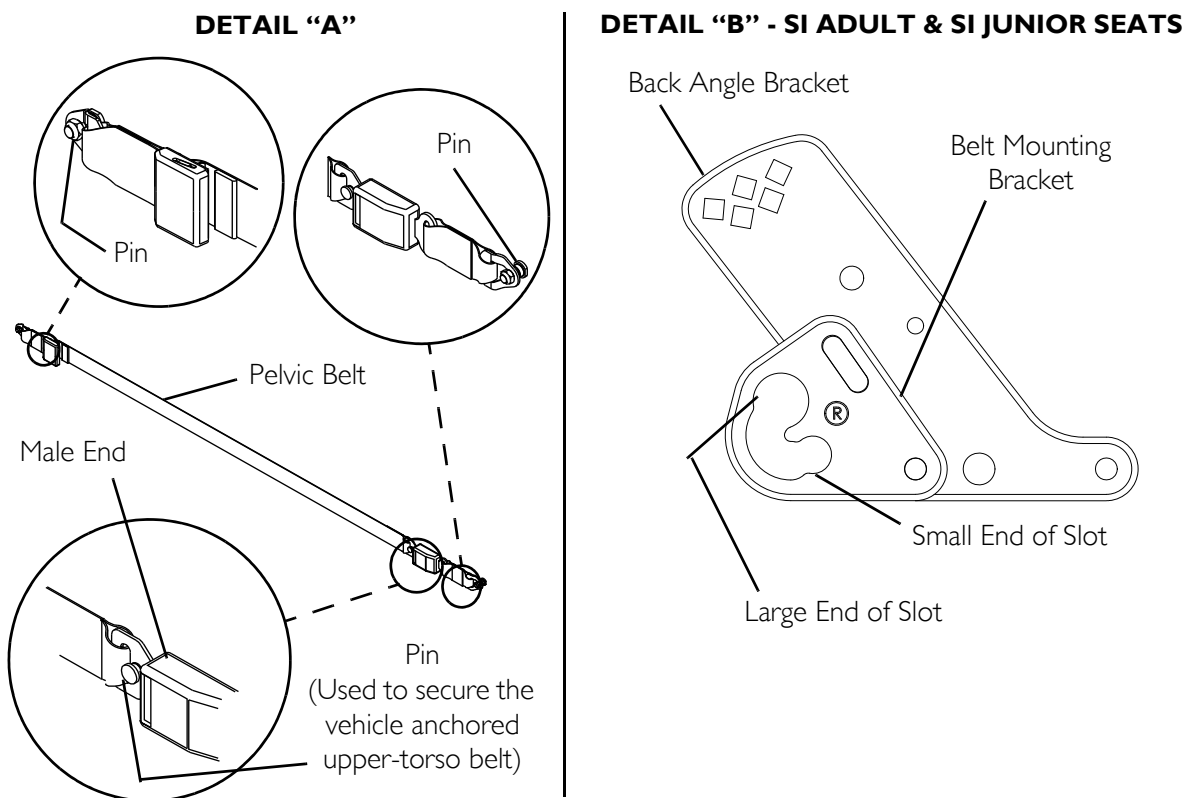

FIGURE 11.2 Wheelchair-Anchored Belts
NOTE: For this procedure, refer to FIGURE 11.2 on page 67.
1. Install the pelvic belt pin (Detail "A" of FIGURE 11.2) into the large end of the slot in the belt mounting bracket (Detail "B" or Detail "C"). Rotate downward and forward until it snaps into place into the small end of the slot.
NOTE: Note the position of the male end of the belt when installing the pelvic belt onto the belt mounting brackets. The male end of the pelvic belt (Detail "A" of FIGURE 11.2) has a pin which is used to secure the vehicle-anchored upper-torso belt.